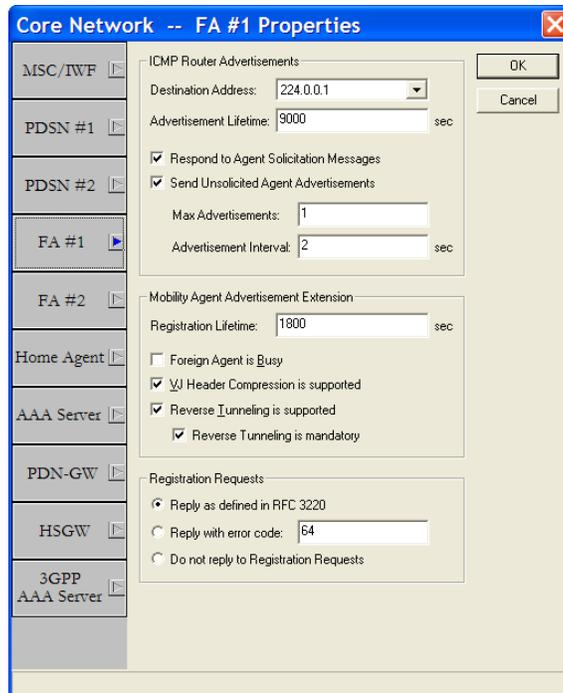

Figure 4-26: CN Configuration Window – Foreign Agent Properties
Figure 4-26 shows the *Property* window for the Mobile IP Foreign Agent (FA) emulation. When AirAccess is configured for two PDSN operations, two Foreign Agent windows are available. This allows you to independently configure the behavior of each PDSN/FA. The first Foreign Agent is used for calls on the first BSC, and the second Foreign Agent is used to calls on the second BSC.